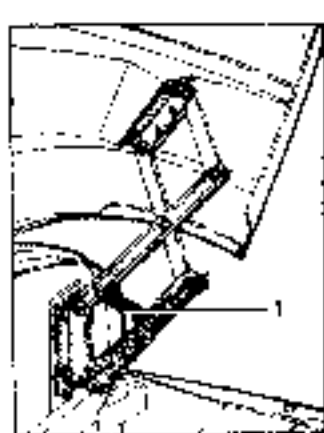

Fig. 5. Hood Lifting Mechanism Lock
4. When servicing the diesel engine lock the hood lifting mechanism applying hook 7 (Fig. 5).